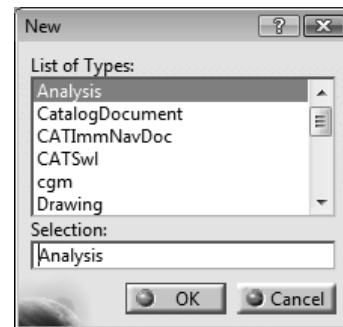

Figure 2-40 The New dialog box
1. Choose **File > New** from the menu bar; the **New** dialog box is displayed. Alternatively, choose the **New** tool from the **Standard** toolbar to invoke the **New** dialog box, refer to Figure 2-40.